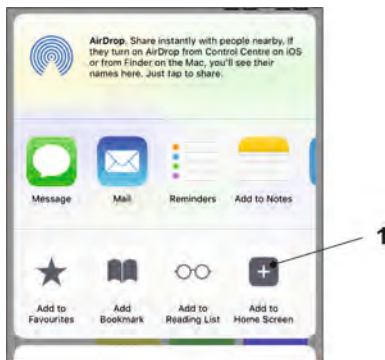

Fig. 31-17 To Home Screen
9. Select "To Home Screen" (Fig. 31-17 no. 1).